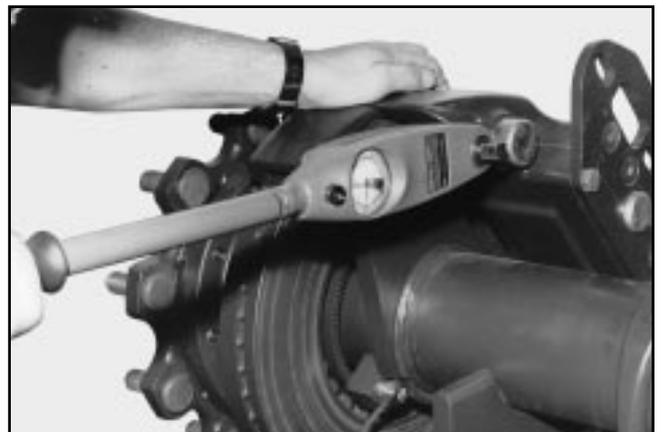

FIG. 23
4. Tighten the six fasteners to the torque value specified in table 2 using a 24mm 1/2" drive square socket. (Fig. 23)